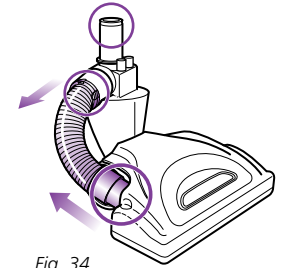

Fig. 34
- Detach the hose on the motorized floor brush at the top by squeezing the tabs together and pulling out, and at the bottom by pulling out the connector. Inspect inside the 3 holes. (Fig. 34)